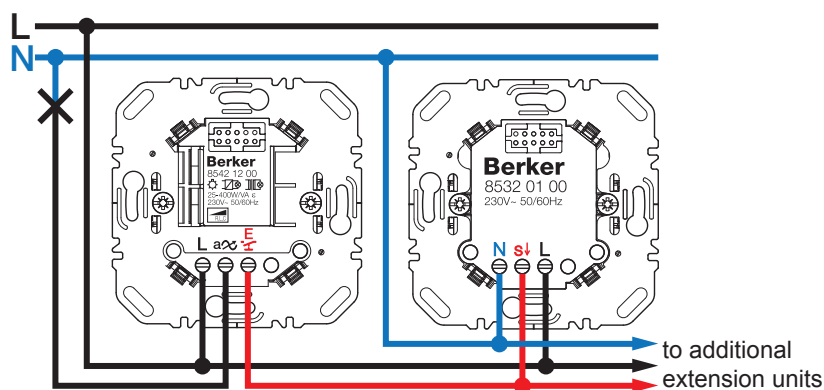

Figure 2: Universal or switch insert with motion detector extension units
- Circuit motion detector extension unit according to the circuiting diagram (Figure 2 or 3).